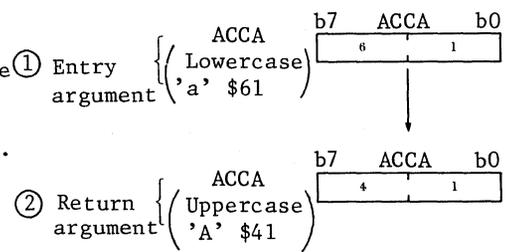

Fig. 1 Example of TPR execution
(b) Fig. 1 shows example of TPR execution.
If lowercase 'a' (\$61) is held in ACCA as shown in part ① of Fig. 1, it is converted into uppercase 'A' (\$41), and the result is contained in ACCA as shown in part ② of Fig. 1.